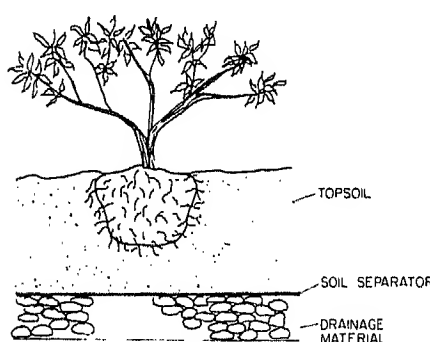

Fig. 3 Soil separation.
**Soil separator** If the plants are removed from their growing cans and replanted in growing soil, it is usually best to use a soil separator between the drainage layer and the planting soil. The separator is a semiporous sheet, often composed of fiberglass wool, which serves to keep the soil from falling into the drainage material. If the separator is not used, soil will clog the drainage material. Fiberglass wool of building material grade should not be used, as it contains chemicals that will damage the plant (Fig. 3).